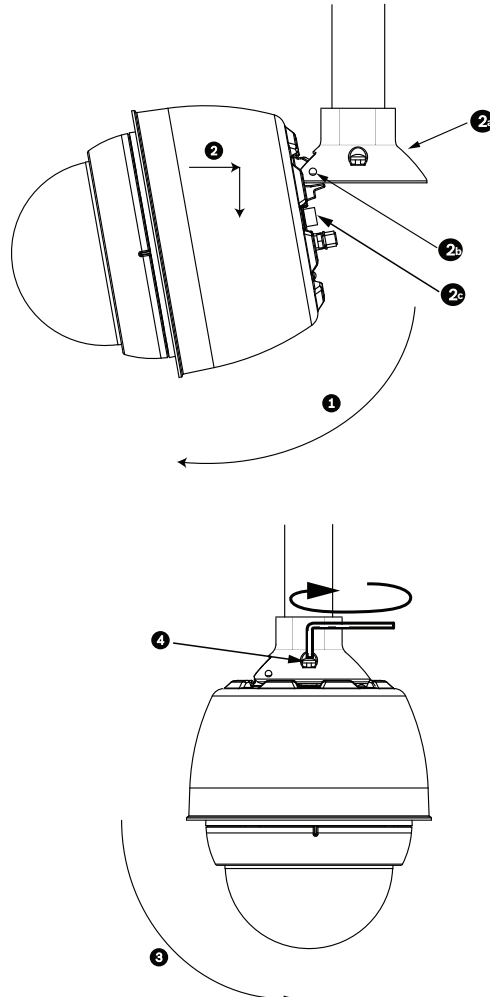

Figure 3.15 Pendant to Roof / Pipe Mount Attachment
7. Tighten the three (3) 10-mm (3/8-inch) stainless steel hex bolts on the bracket to lock the Parapet Arm in position. See *Figure 3.15, Page 62*, for an illustration.